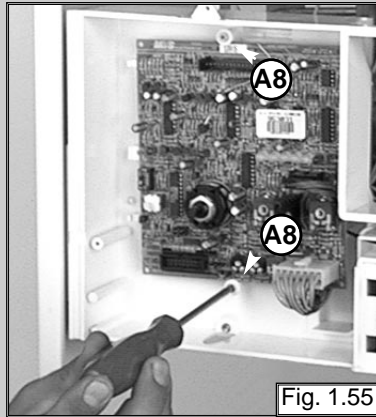

Fig. 1.55
7. To remove the 24V P.C.B.: remove the electrical plug connectors and screws "A8" (see fig. 1.55);